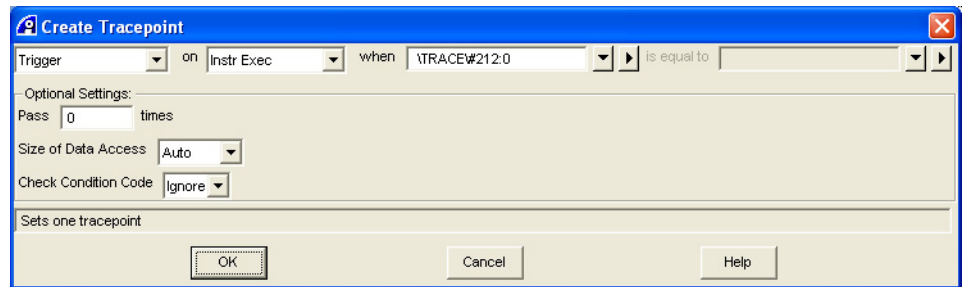

Figure 7-4 Create Tracepoint dialog box
2. Select **Create Tracepoint...** from the context menu to open the Create Tracepoint dialog box. Figure 7-4 shows an example: